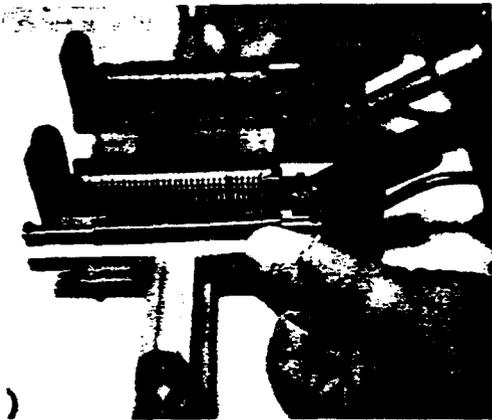

FIG. 12 CHECKING ALIGNMENT
3.428 It is important that the tool comb, mandrel, retainer relationship always be checked for proper alignment. Use a rigid steel rule to check that the upper and lower combs align with the mandrel slots at both ends of the mandrel; or place a taut wire, of the wire gauge to be fanned at each end of the mandrel and into the gripping springs to see that alignment exists. See Fig. 12.